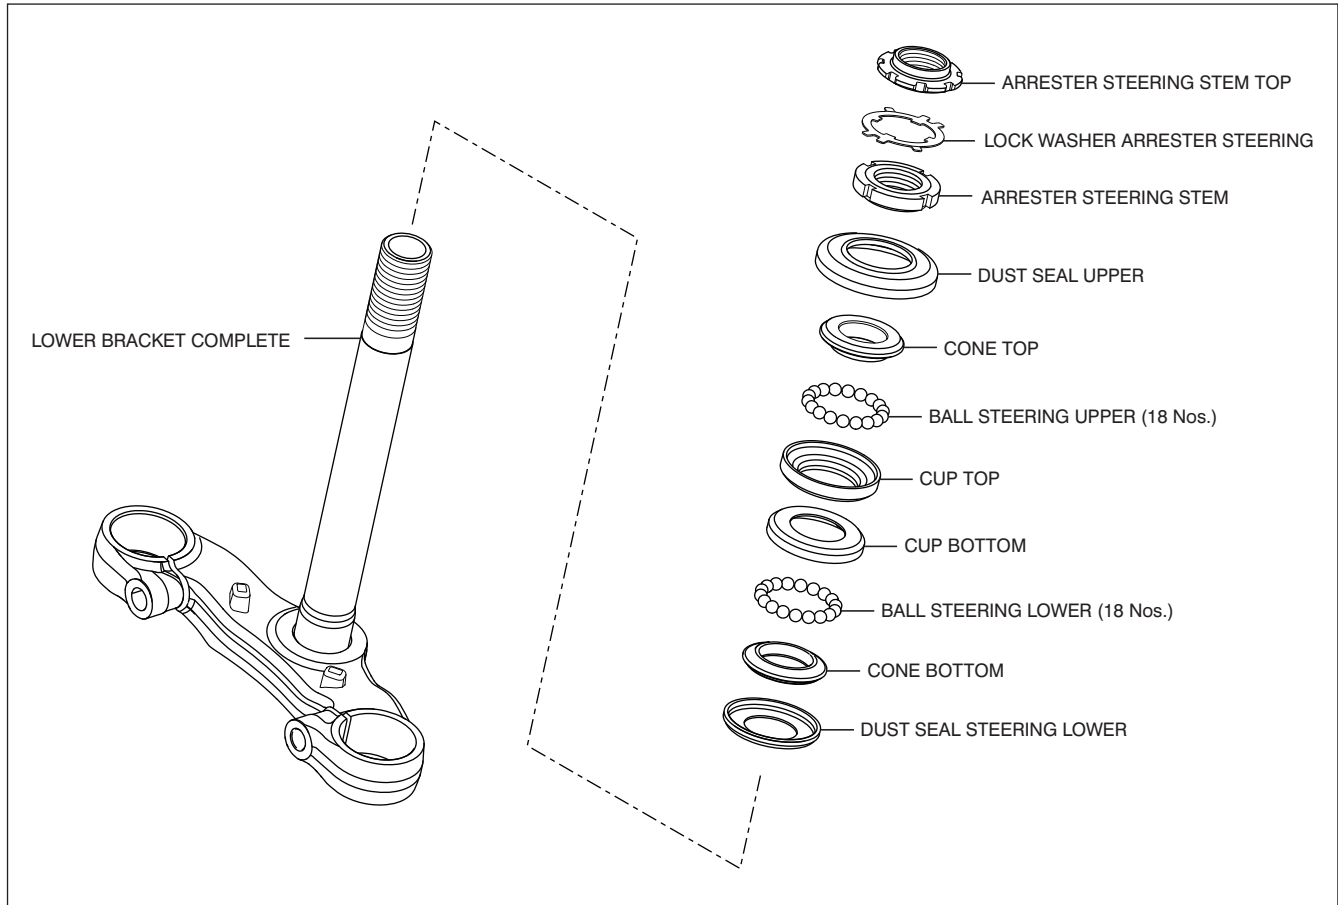

Fig. 6.75
- Refer lower bracket complete exploded view (Fig. 6.75) for assembly details.